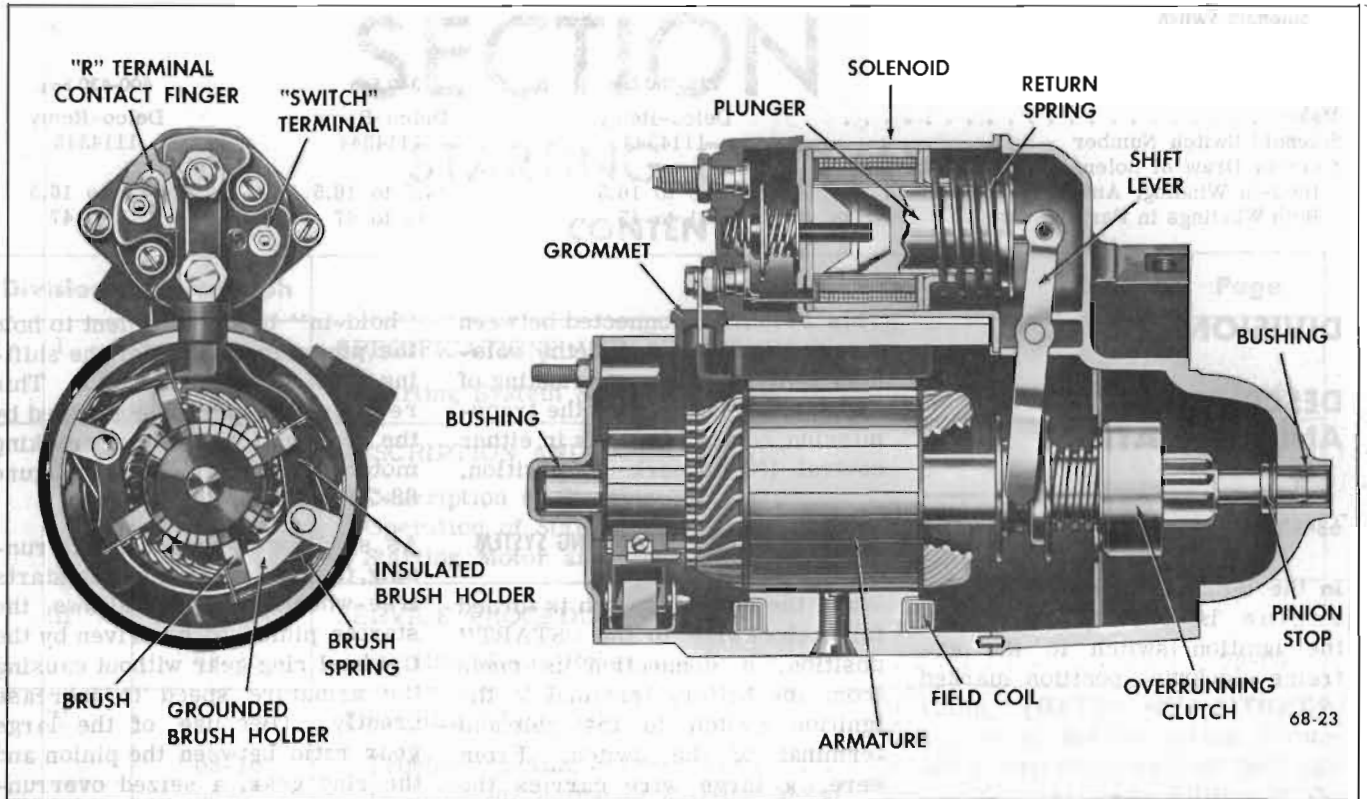

Figure 68-21—Starting Motor - 225, 300 & 340 Engines
The cranking system, shown schematically in Figure 68-21, is composed of the following units:
Closing of the ignition "START" switch and the neutral safety switch permits battery current to flow through the "pull-in" and "hold-in" coils of the solenoid, magnetizing the solenoid. The plunger is pulled into the solenoid so that it operates the shift lever to move the drive pinion into engagement with the flywheel ring gear. The solenoid switch contacts then closes after the drive pinion is partially engaged with the ring gear; this prevents any possible gear clash. See Figure 68-21 or 22.
"hold-in" being sufficient to hold the pinion in mesh after the shifting has been performed. This reduces the current consumed by the solenoid while the cranking motor is operating. See Figure 68-21 or 22.
The cranking motor assembly consists of a motor, drive assembly, shift lever, and solenoid switch. See Figure 68-21 or 22.
The armature shaft is supported at both ends in graphite bronze bushings pressed into the commutator end frame and the drive housing. Neither of these bearings require lubrication except during assembly. See Figure 68-21 or 22.
The drive assembly pinion is moved into engagement with flywheel ring gear by action of the solenoid upon the shift lever, which engages the shift collar of drive assembly. The shift collar moves the drive assembly by pushing on the clutch spring, which serves as a cushion in case the pinion and gear teeth butt instead of meshing. The helical splines assist in obtaining proper pinion engagement. The drive pinion is pulled out of engagement, after engine starts, by action of the shift lever return spring. The shift lever is connected to the solenoid switch plunger by a roll pin. See Figure 68-21 or 22.
connected to the motor windings through a connector or bus bar. See Figure 68-21 or 22.
4. Remove two screws holding solenoid to drive housing and remove solenoid. Remove small nut and insulating washer from the solenoid "S" terminal. Remove large nut and insulating washer from the solenoid battery terminal. See Figure 68-21 or 22. Then, remove two screws that attach switch cover to solenoid and remove cover for inspection of switch parts.